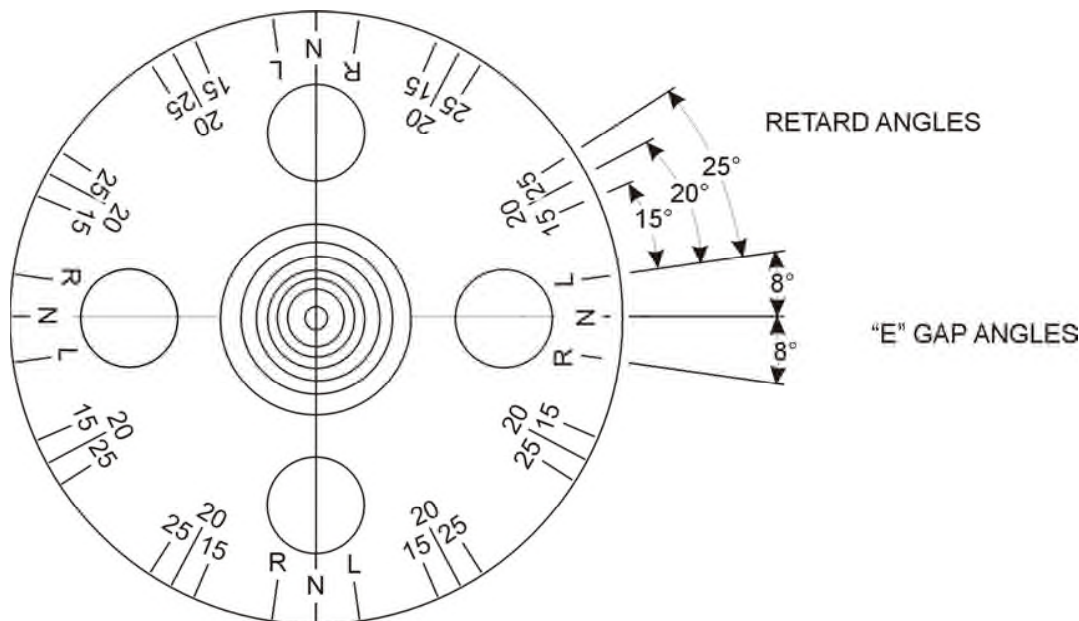

Figure 5-2. Timing Marks on Rotating Magneto
- (3) *Retard Breaker* – Remove timing light leads from the main breaker terminals. Attach one positive lead to retard breaker terminal, and second positive lead to the tachometer breaker terminal, if used.
- (4) Back the engine up a few degrees and again bump forward toward number one cylinder firing position until pointer is aligned with 15° retard timing mark. See Figure 5-2. Retard breaker should just open at this position.
- (5) If retard timing is not correct, loosen cam securing screw and turn the retard breaker cam as required to make retard breaker open per paragraph d.(4). Retorque cam screw to 16 to 20 in.-lbs.
- (6) Observe the tachometer breaker is opened by the cam lobe. No synchronization of this breaker is required.